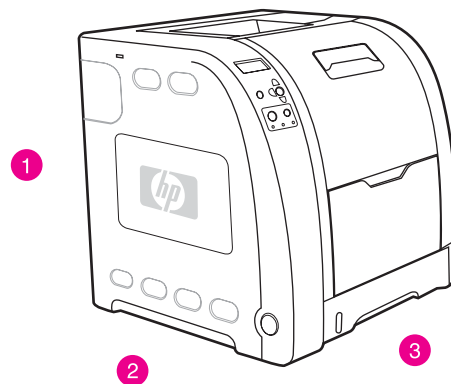
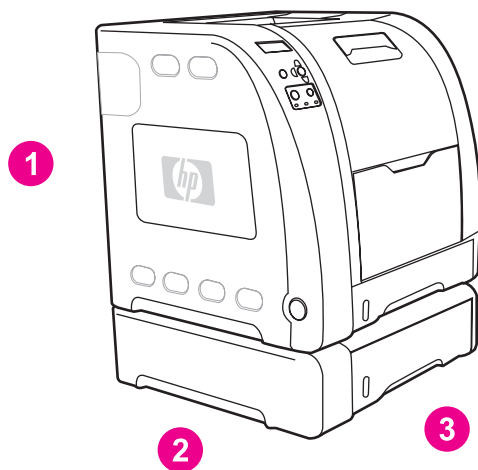

Figure 1-9.
Figure 1-10.
- walls or other objects (There must be enough space around the printer for proper access and ventilation. See the figures Figure 1-9. Space requirements for the HP Color LaserJet 3500/3550 series printer and Figure 1-10. Space requirements for the HP Color LaserJet 3700 series printer with optional Tray 3, on the following pages.)